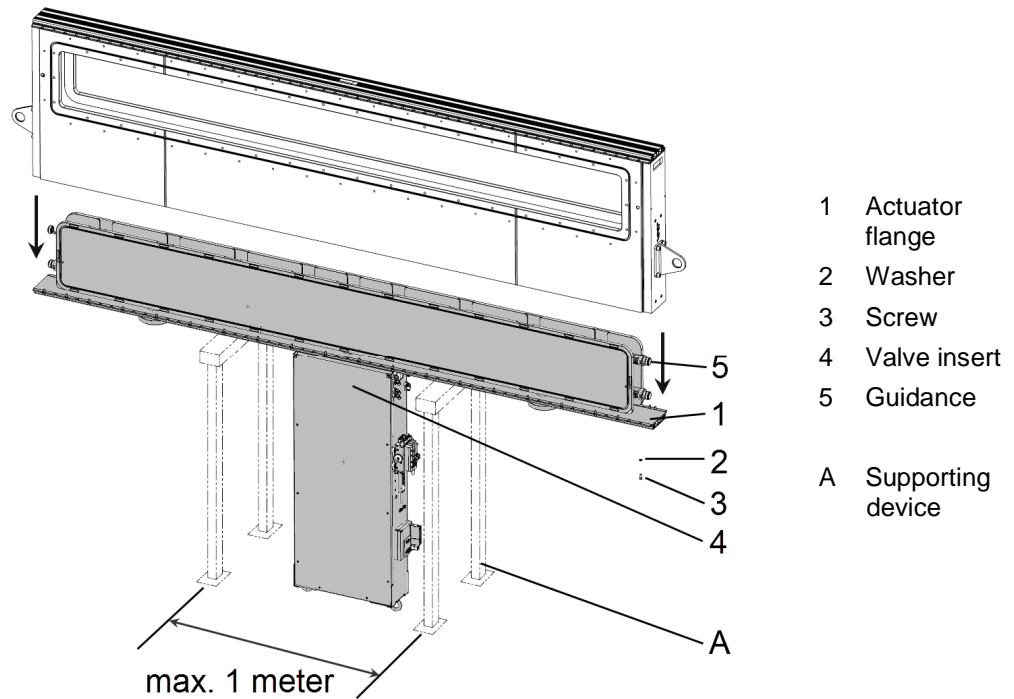

Figure 6-2
- Mount supporting device (A) (not supplied by VAT) for dismantling the valve insert only at the designated points; see «Figure 6-2» on page 29.
5. Remove screws (3) with an allen wrench size 5 from actuator flange (1); see «Figure 6-2» on page 29.
6. Lower valve insert (4) with supporting device; see «Figure 6-2».
15. Tighten screws (3) with a **torque of 9 Nm**; see «Figure 6-2».
5. Tighten screws (3) with a **torque of 9 Nm**; see «Figure 6-2» on page 29.